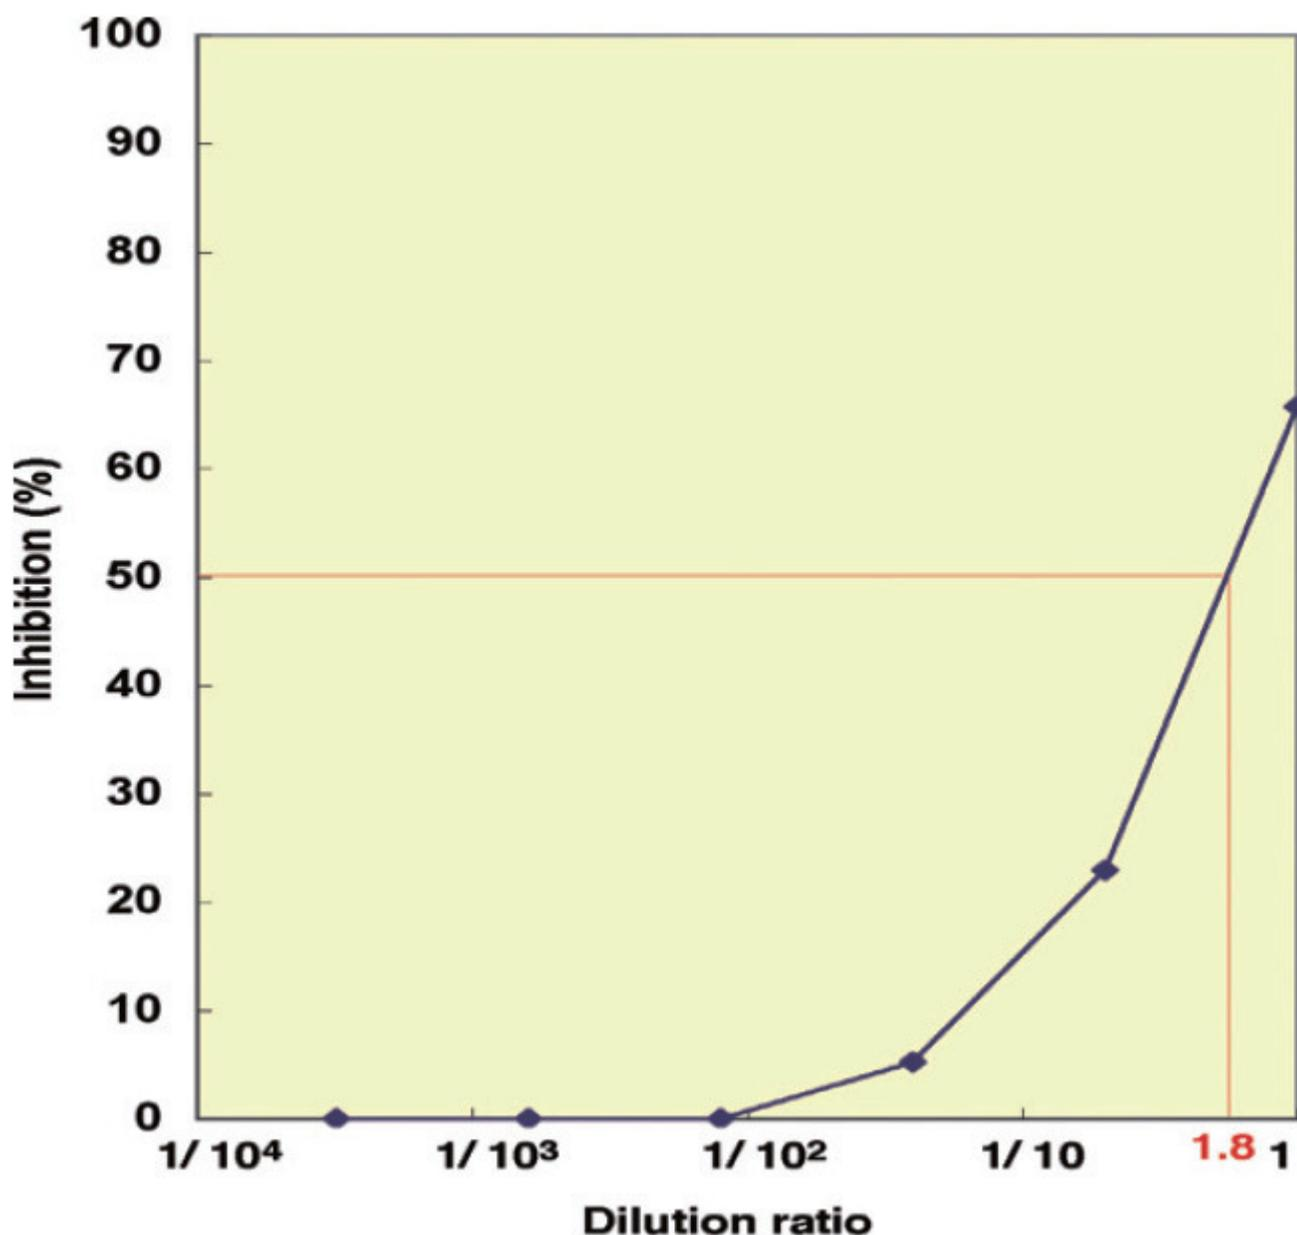

Fig.5 Inhibition curve of erythrocyte
1. Read the dilution ratio at 50% inhibition (IC_{50}) from the inhibition curve (Fig.5). The dilution ratio at IC_{50} is 1/1.8.